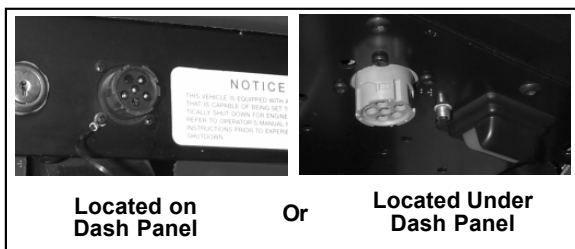

FIGURE 9 - TYPICAL VEHICLE DIAGNOSTIC CONNECTOR LOCATIONS (J1708/J1587, J1939)
3. Communicates the appropriate trouble code information over the serial communications diagnostic link as required. Hand-held or PC-based diagnostic tools attach to the vehicle diagnostic connector, typically located on or under the dash (see Figure 9).
See Figure 9 for typical vehicle connector locations.